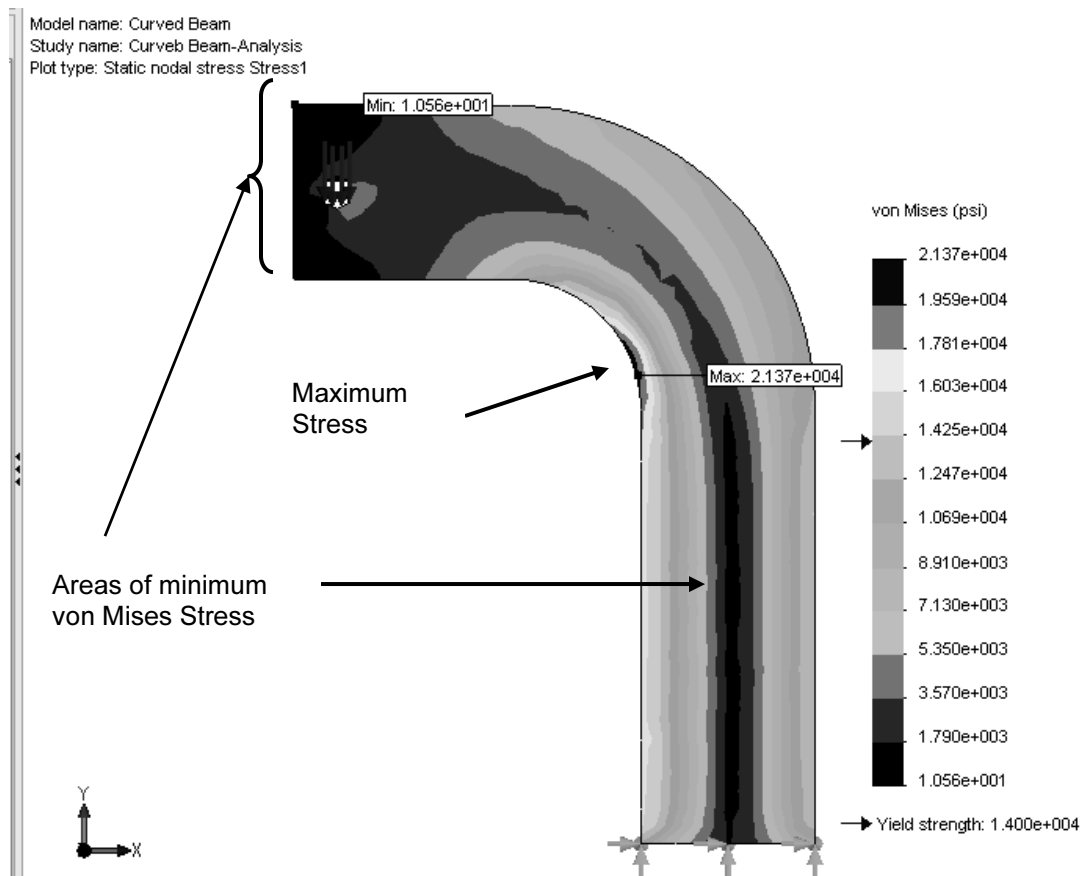
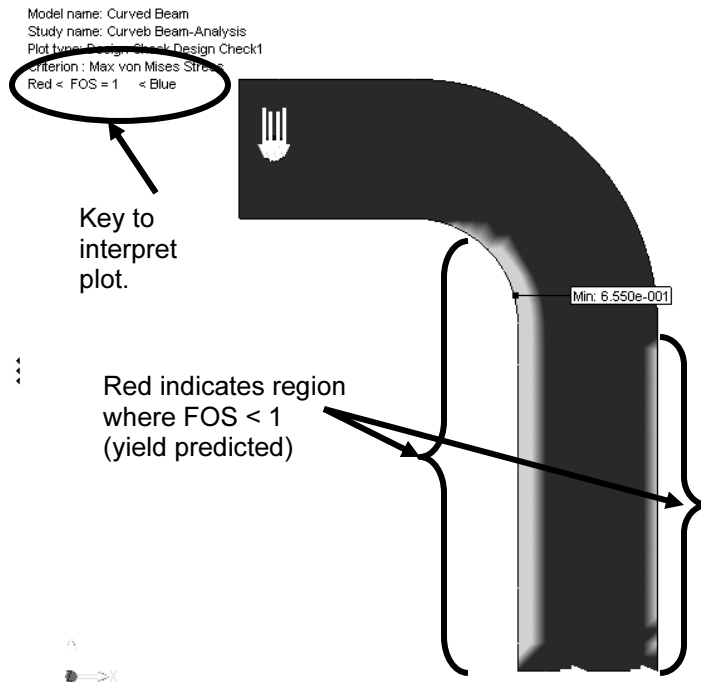

Figure 16 – Front view of the curved beam model showing von Mises stress *after* making changes outlined below.
Figure 24 – Curved beam model showing areas where FOS > 1 (safety predicted) and where FOS < 1 (yield predicted).
Figure 16 reveals an image *similar* to what currently appears on the screen. The following steps convert your current screen image to that shown in Fig. 16.
The following observations can be made about Fig. 16.
First, why are all stress values positive in Fig. 16 (“+” values typically indicate tension) when compressive stresses are known to exist along the concave surface for the given loading? Second, why does the solution show stresses that exceed the material yield strength when, clearly, stresses above the yield strength indicate yielding or failure? These, and many others, are the types of questions that should be raised continually by users of finite element software. Attempts to address these questions are included below.
The above statement answers the question about the positive nature of von Mises stress shown in Fig. 16. It also should provide some understanding about why the von Mises stress can be used to determine whether or not a part is likely to fail by yielding. *Safety Factor* and failure by yielding are explored further below.
10. Click **[OK]**  to close the **Design Check** property manager. A new plot folder, named, **Design Check1 (-Criterion: Max von Mises Stress-)**, is listed beneath the **Results** folder. Also, a plot showing regions of the model where the Safety Factor is < 1.0 (red) and where the Safety Factor is > 1.0 (blue) is displayed in Fig. 24.
The preceding step labels the location of minimum Safety Factor on the curved beam as shown in Fig. 24. As expected, this location corresponds to the location of highest stress previously illustrated in Fig. 16.
The figure now on the screen should correspond to Fig. 24. This figure shows regions where the factor of safety is less than 1 (unsafe regions) in red. Regions with a factor of safety greater than 1 (safe regions) are shown in blue. Localized regions, along the right and left vertical edges and extending into the concave region, have a safety factor less than one.
The line of text, circled near the top-left in Fig. 24, provides a “key” to interpret safe and unsafe regions on the model.